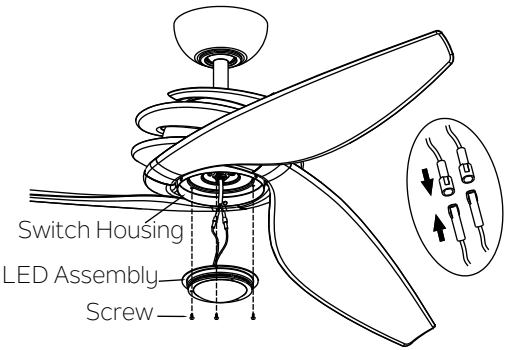

Fig. 19
Step 2. Connect the 2 single pin connectors from the LED assembly to the 2 single pin connectors from motor body, BLACK to BLACK, WHITE to WHITE. Assemble the LED assembly to the switch housing and tighten them by the three screws removed previously. (Fig. 19)